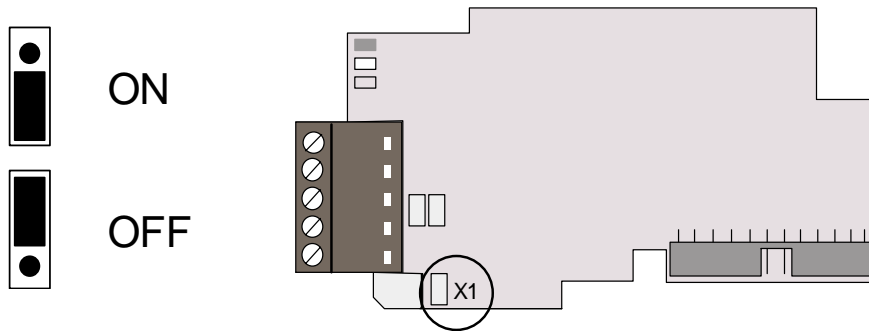

Figure 4-5. Jumper X1 positions
- 2 Leave no more than 1 cm of the data cable outside the terminal block and strip the data cables at about 0.5 cm to fit in the terminals. See Figures 4-5 and 4-6.